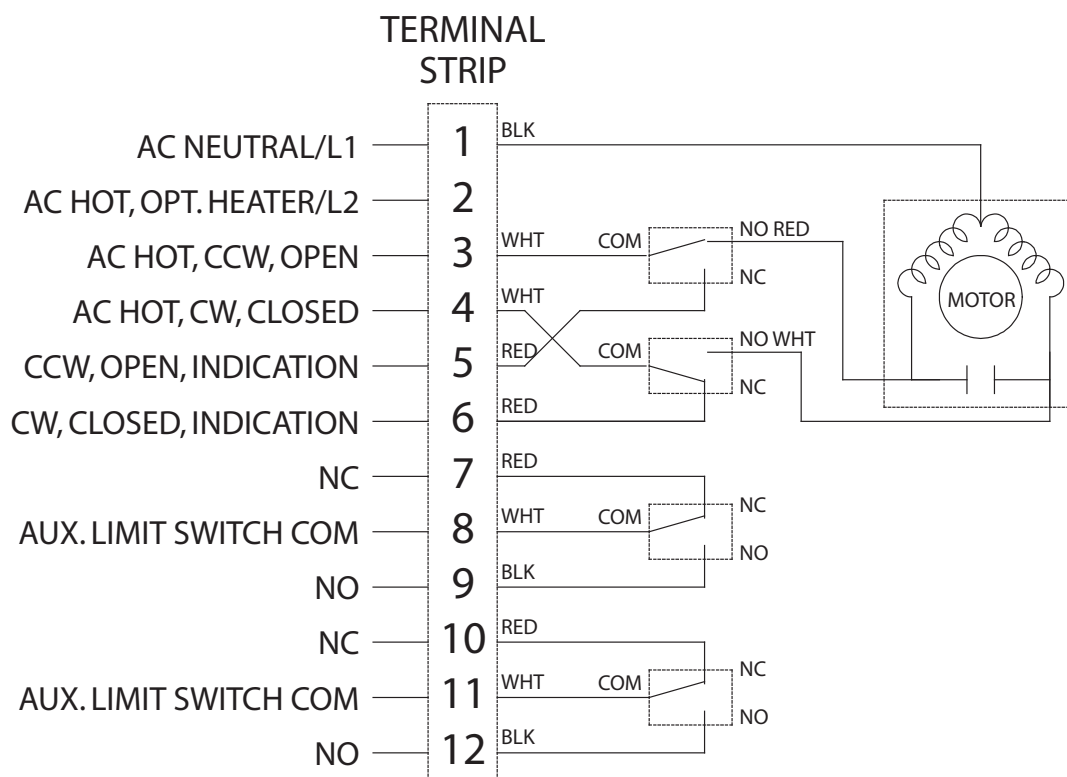

Figure 3A LCR Series AC Wiring
To drive the actuator counterclockwise (CCW), apply power to terminals 1 and 3. To drive the actuator clockwise (CW), apply power to terminals 1 and 4. The actuator can be driven fully open (CCW) or closed (CW) by maintaining power to the motor until the actuator trips the internal limit switches. Power can also be disconnected at any point during the travel to position the actuator. (see **Figure 3A**)
2. Apply power to terminals 1 and 3 (See Figures 3A and 3B) to drive the actuator to the open position (counterclockwise rotation).
2. Apply power to terminals 1 and 4 (See Figures 3A and 3B) to drive the actuator to the closed position (clockwise rotation).